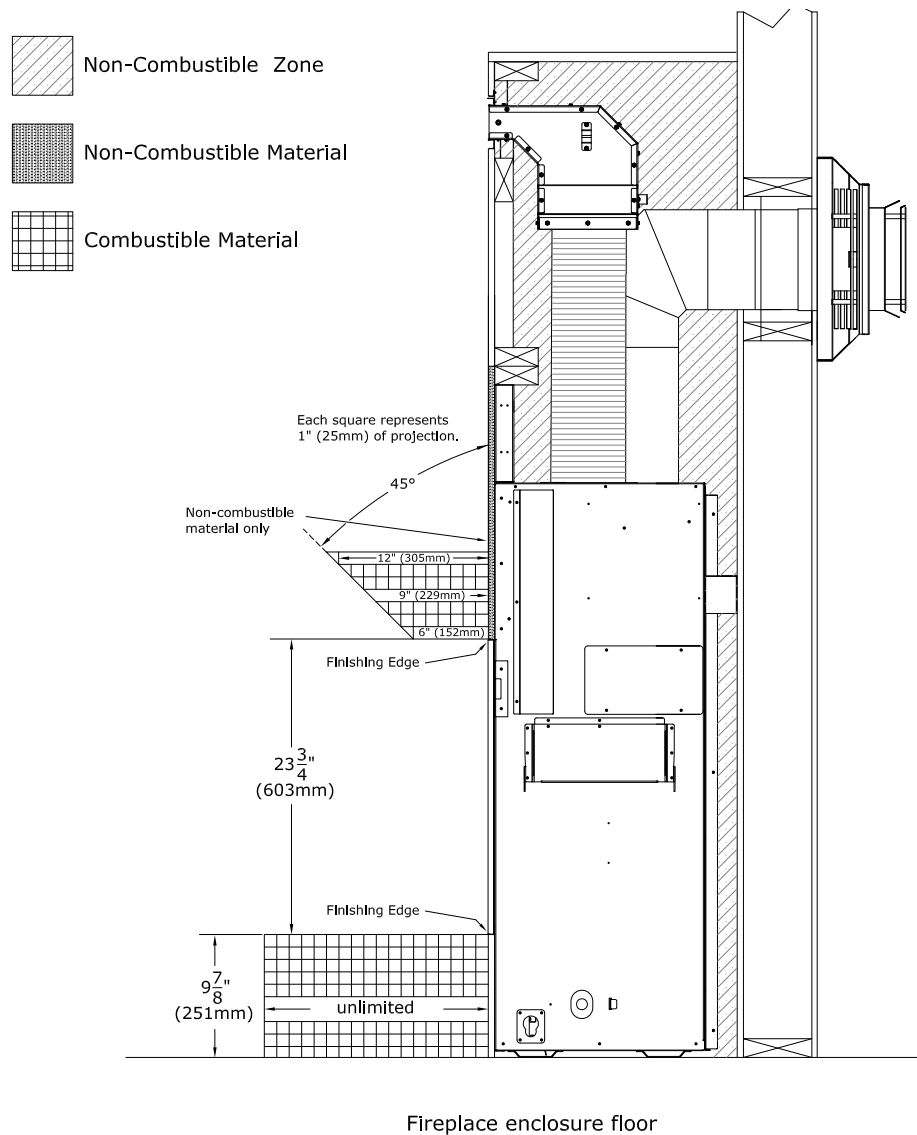

Figure 3.11 - Nordik 60TL Combustible Hearth and Mantel Requirements
- Combustible Mantel Projections (no surround): As referenced in FIGURE 3.11, the 6" (152mm) mantel can start flush with the top finishing edge. Mantel projections can increase 1" (25mm) of depth for every 1" (25mm) of height starting at the 6" (152mm) mantel.